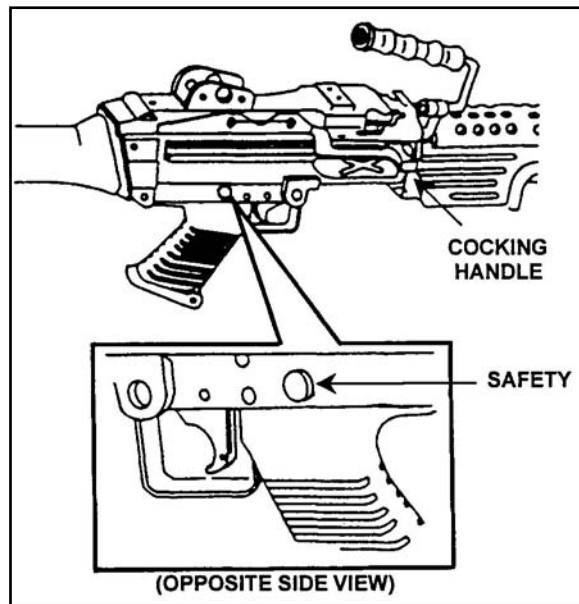

Figure 071-312-4027-1. M249 locking handle and safety
3. Push the safety from left to right for safe mode (the red band will not show) (figure 071-312-4027-1).